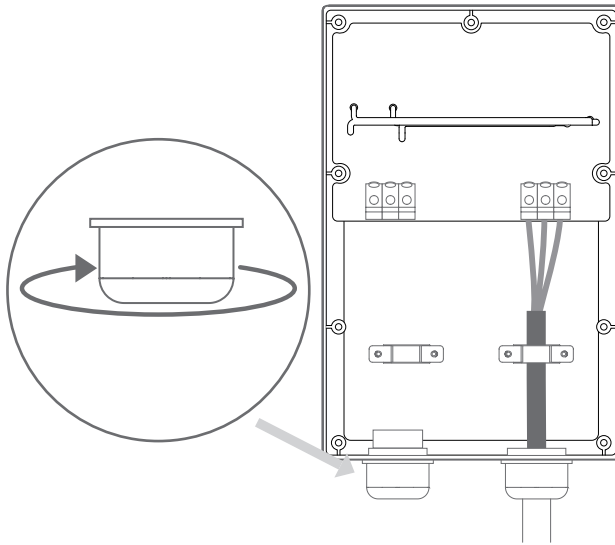

Fig. 5-4
3. Remove the gland at the bottom left of the charger. You can use a large wrench if needed. (See Fig. 5-4)